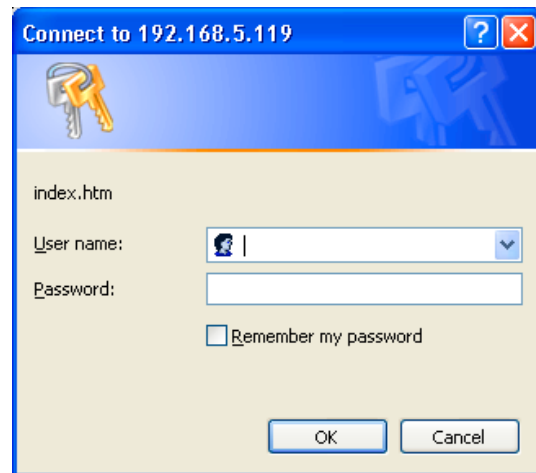

Figure 14. Example of Logon Screen
8. Now open your Internet Explorer program. In the address line enter `http://100.100.100.100` and then hit Return. You will then be asked for a username and password. An example of the login screen is shown in Figure 14. If this is your first time logging onto a UPLC™ unit from the factory, type “administrator” for the username and “pulsar” for the password. If this is not the first time logging onto the UPLC™, and user accounts have been set up, use your assigned user name and password.